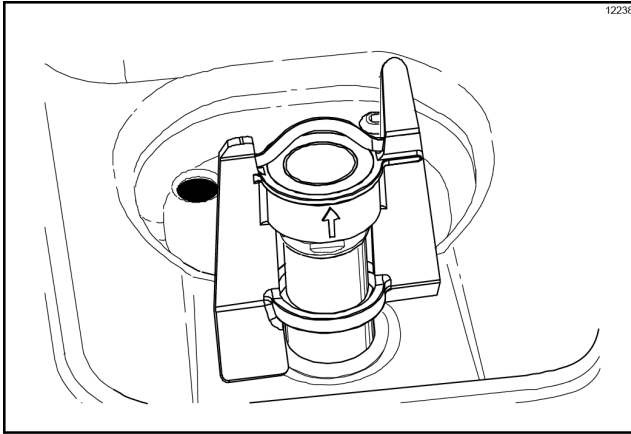

Figure-161
16. Place the agitator on the agitator driveshaft housing. (See Figure-161.)